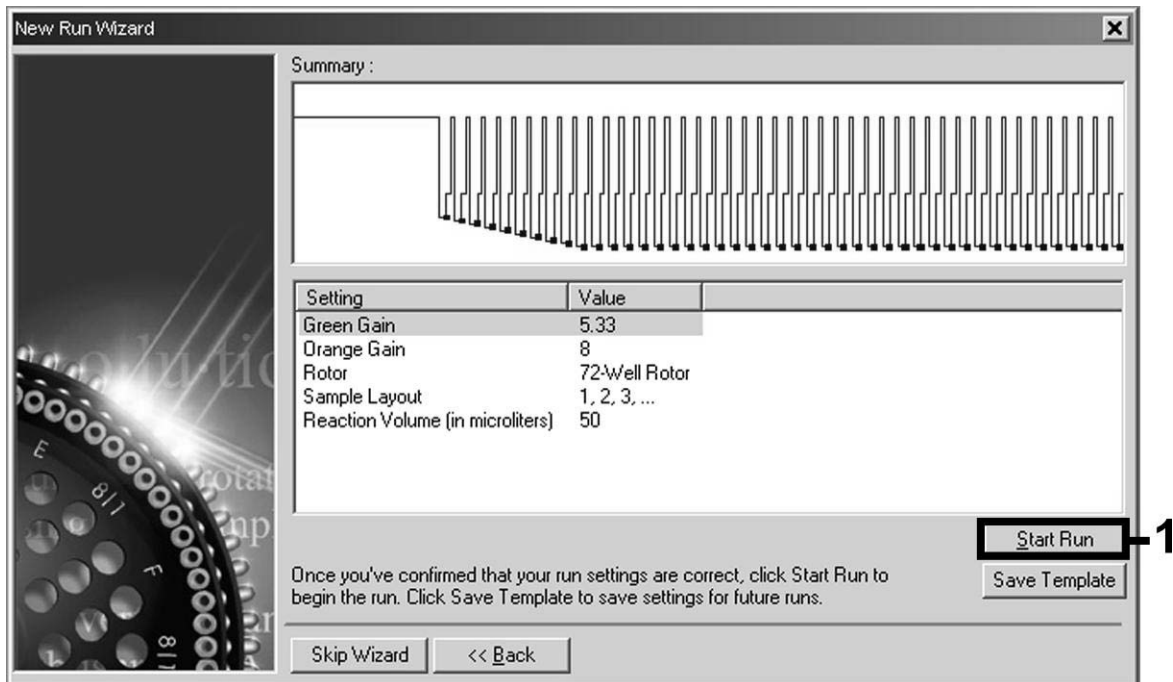

Figure 11. Starting the run.
Starting the run	Figure 11
8. The gain values determined by the channel calibration are saved automatically and are listed in the last menu window of the programming procedure (Figure 11). Click “Start Run”.